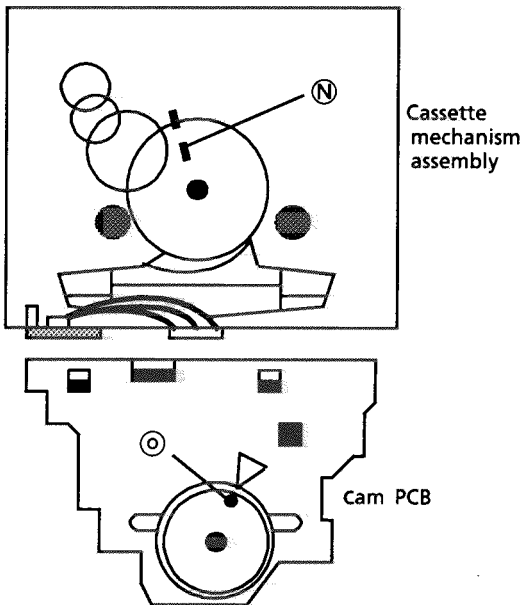

Fig 19 Cam PCB view
- (19) Install cam sw. PCB
- * Install it so that the part ④ meets the part ⑤. (Fig.19)